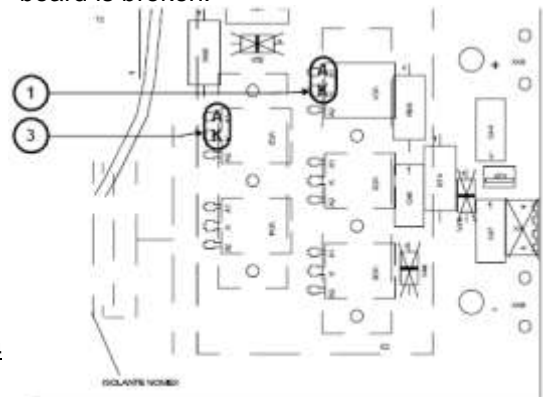

Fig.4
- Diodes of the secondary circuit: check points A-K of diode 1 and points A-K of diode 3 (Fig.4): if at least one shows short circuits the board is broken.